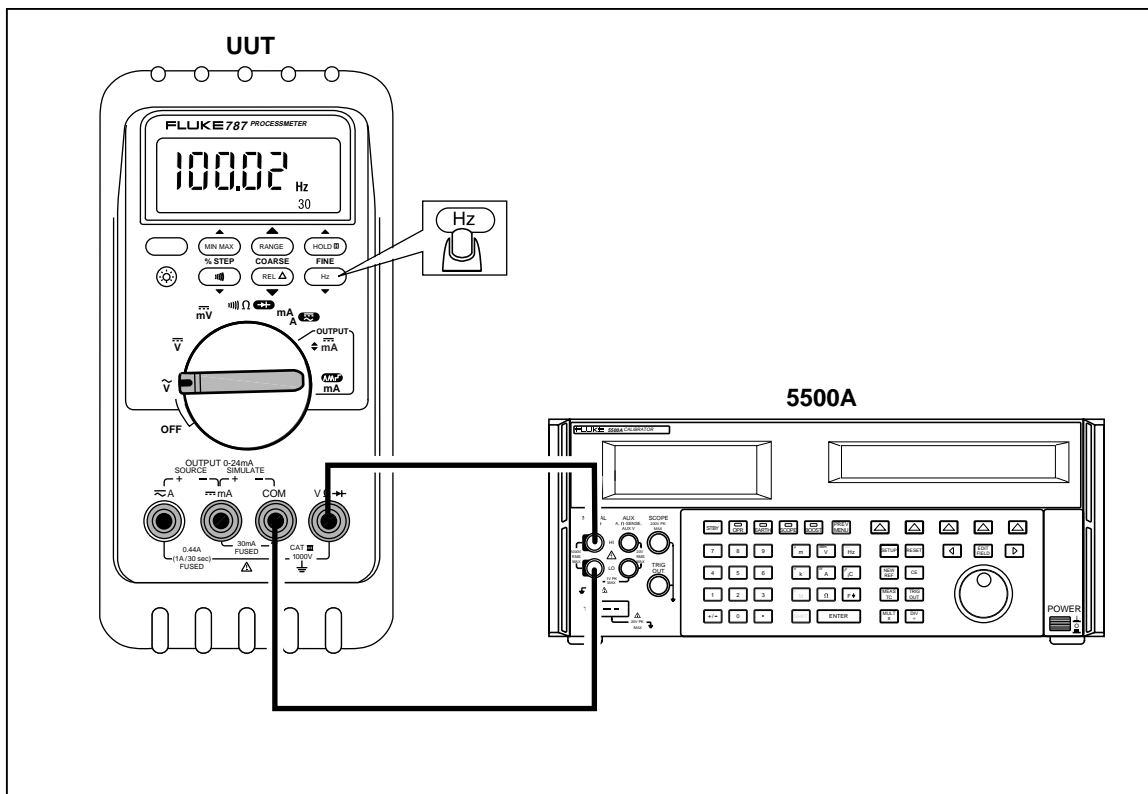

Figure 11. Frequency Measurement Test Connections
4. Connect the calibrator to the **COM** and **V Ω →** terminals on the UUT as shown in Figure 11.